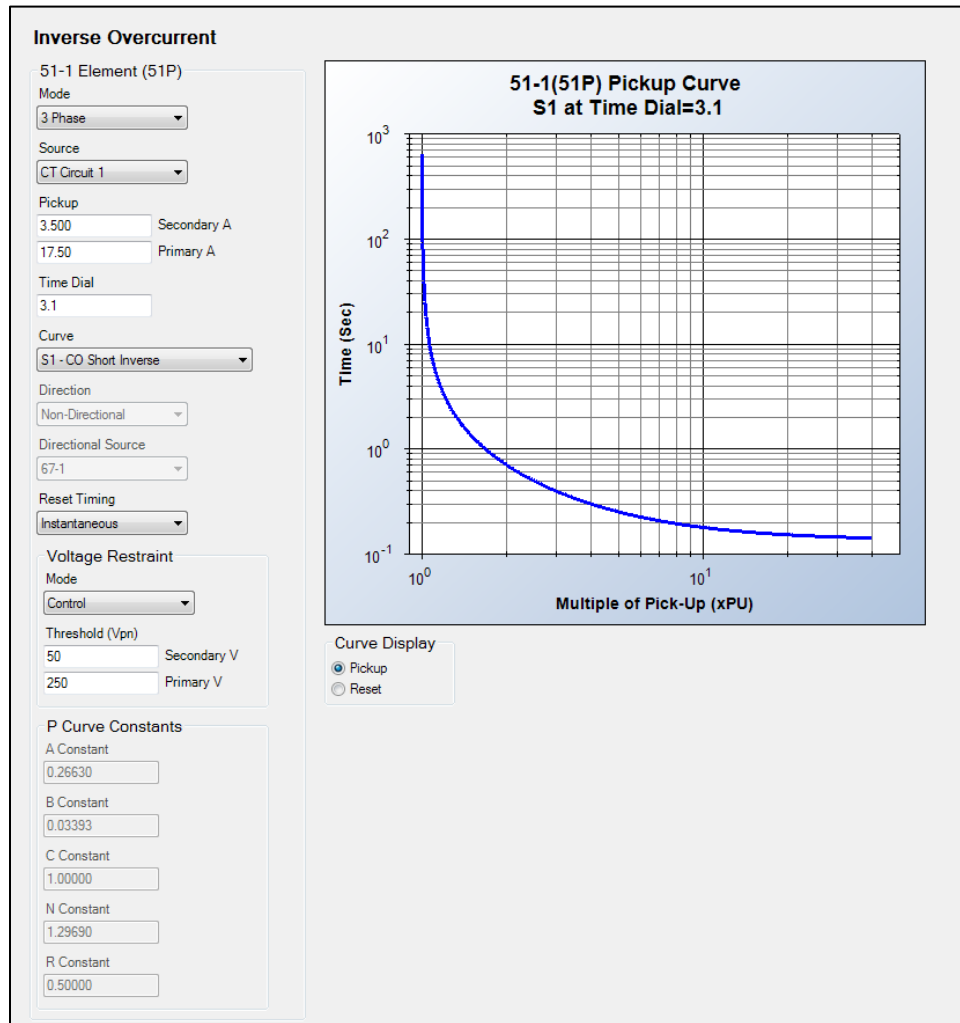

Figure 14-4. Inverse Overcurrent Settings Screen
Inverse overcurrent element operational settings are configured on the Inverse Overcurrent (51) settings screen (Figure 14-4) in BESTCOMSPlus.